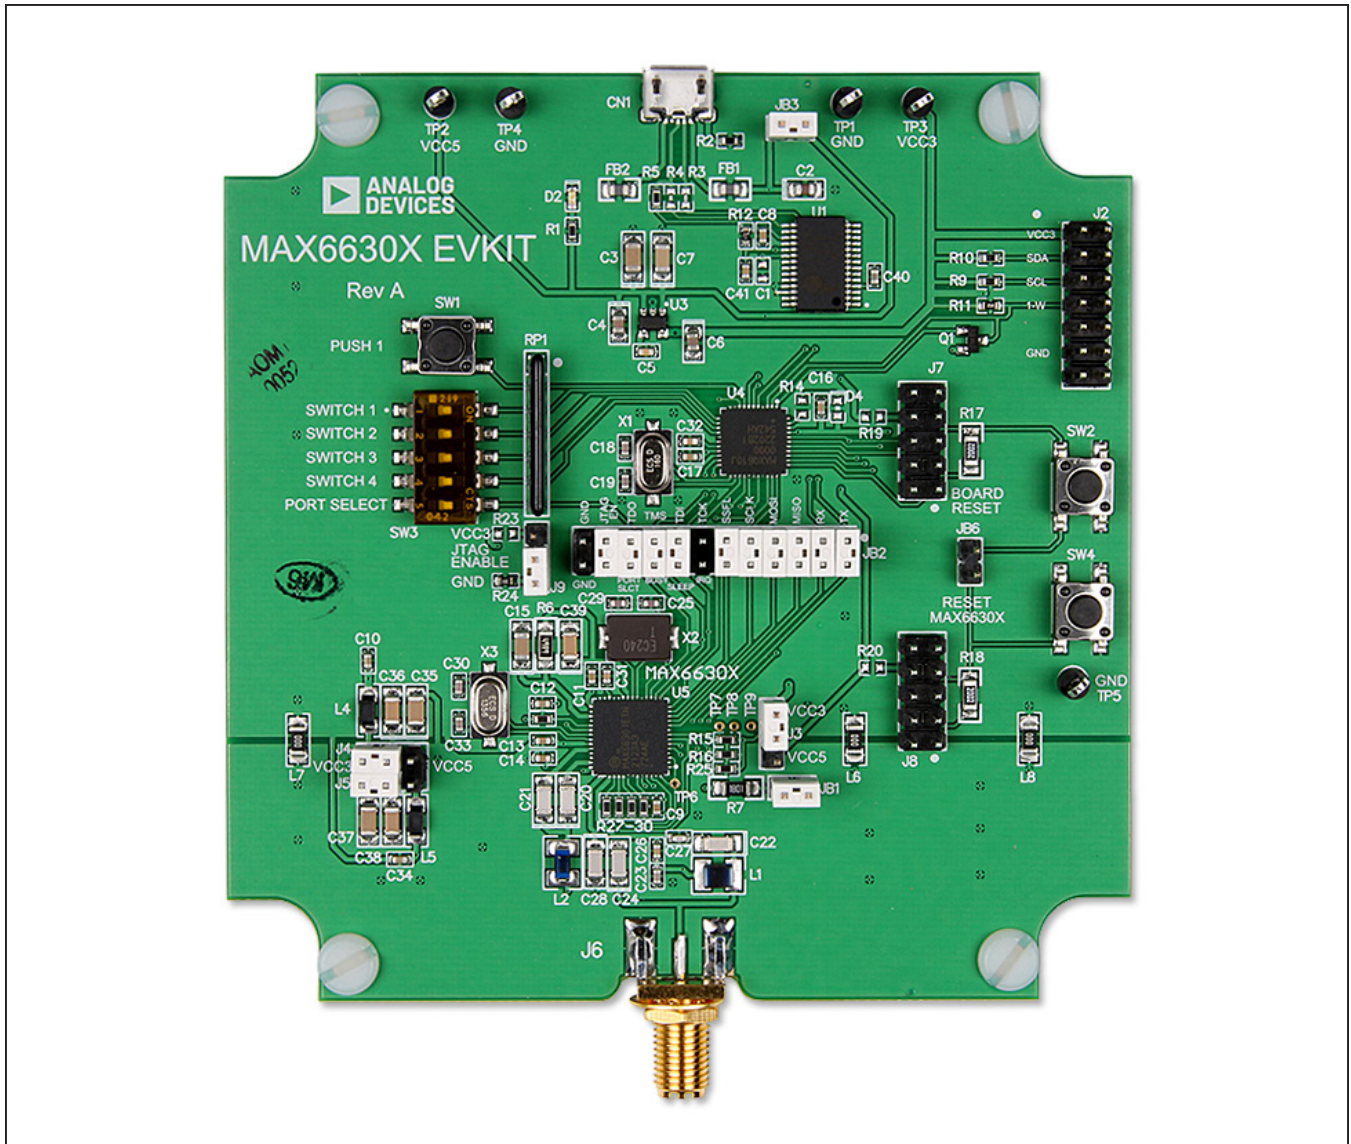

Figure 6. MAX66301 EV Kit Jumpers
- a) Configure the jumpers per Table 1 and Figure 6 for 3.3V operation.
Table 1 and Figure 6 describe the MAX66301 EV kit and the function of the jumpers. Default settings from Table 1, in summary, support UART or SPI linking, USB power, and 3.3V operation.